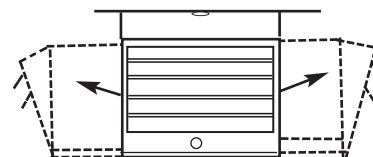

Figure 8
1. Turning the unit. If the unit has been installed with a single lag bolt, as shown in Figure 8, simply turn the entire unit as needed to adjust air flow.